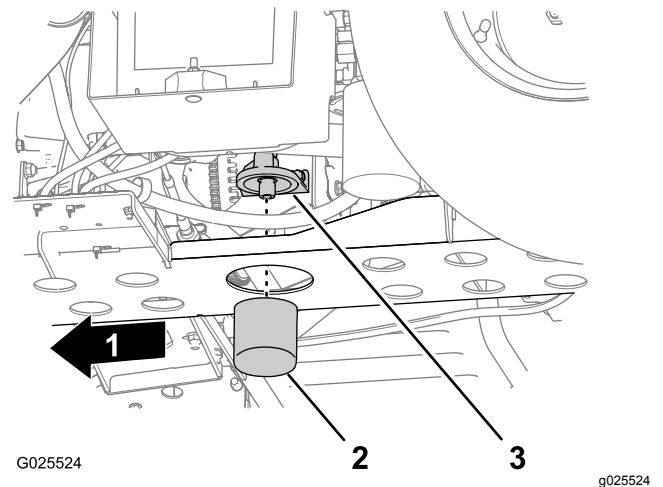

Figure 45
5. Remove the oil filter from the filter adapter (Figure 45).
6. Wipe clean the sealing base of the of the filter adapter (Figure 45).
8. Install the filter until the gasket contacts the sealing base of the filter adapter, then tighten the filter clockwise and additional 1/2 to 2/3 of a turn (Figure 45).